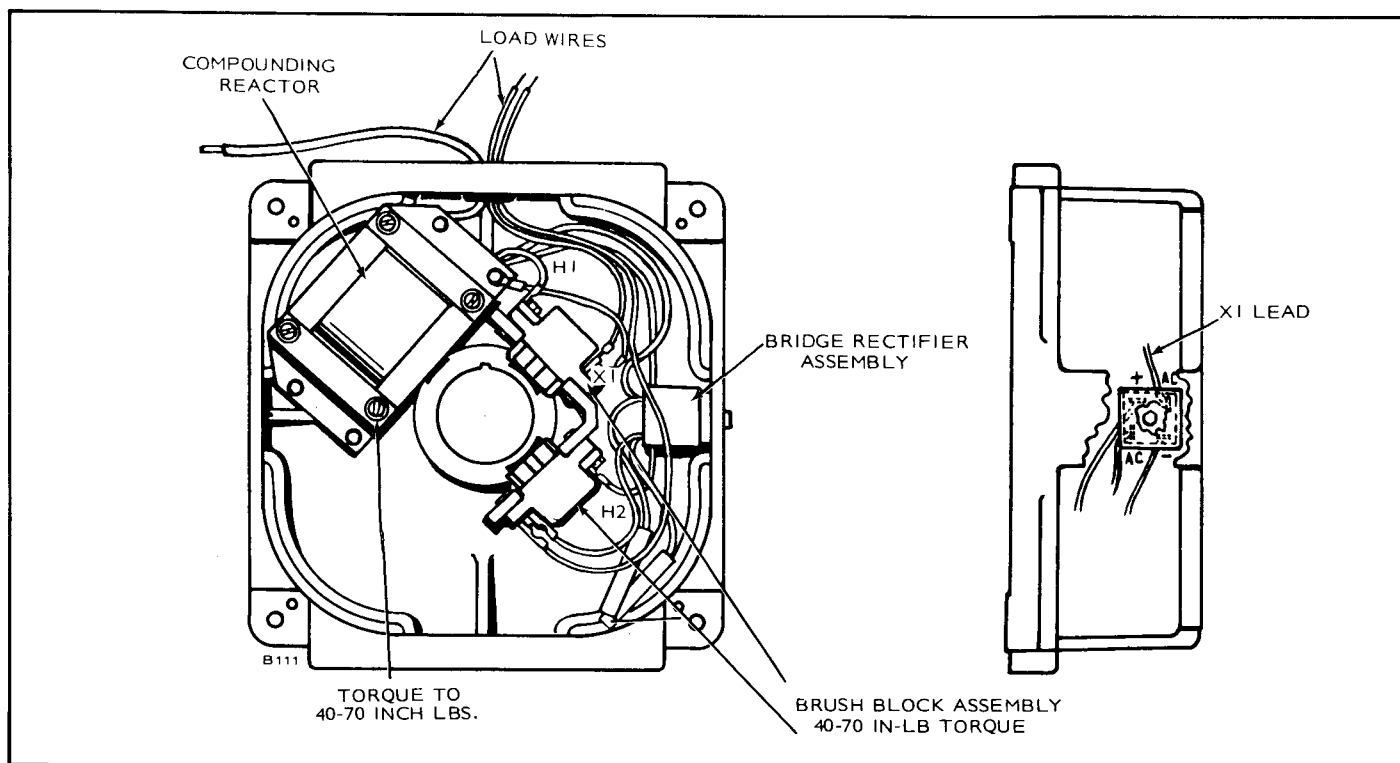

FIGURE 69. END BELL ASSEMBLY
1. Loosen No. 8-32 screw to remove bridge rectifier assembly (see Figure 69 for location).